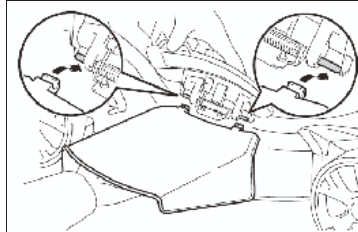

Fig.9D
4. Mount the discharge guide for side discharge on the support pin of the sideward flap. (Fig.9D)